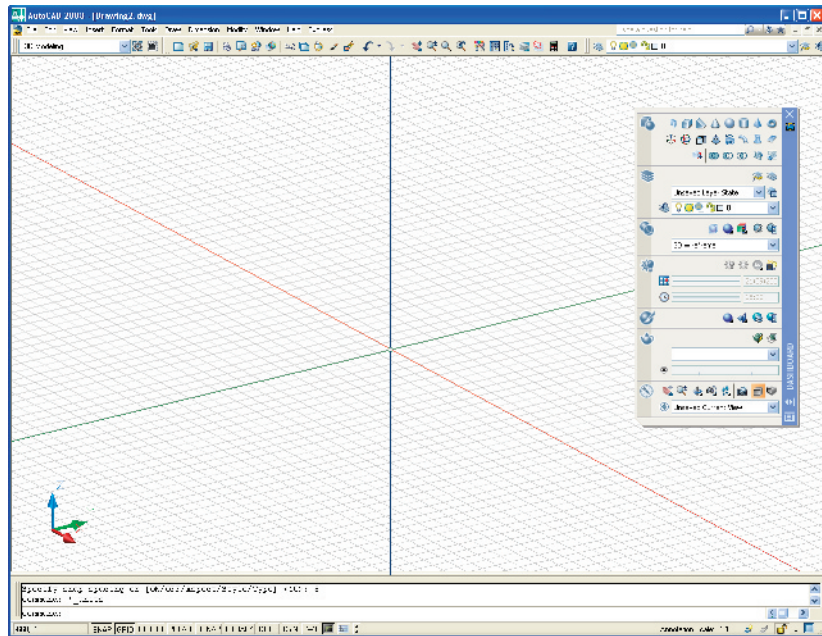

Fig. 16.4 The **acadios3D** screen
6. The AutoCAD window should appear as in Fig. 16.4.
10. Note (Fig. 16.4) the screen is in **Parallel** projection. Some operators may prefer the screen to be set to **Perspective** projection.